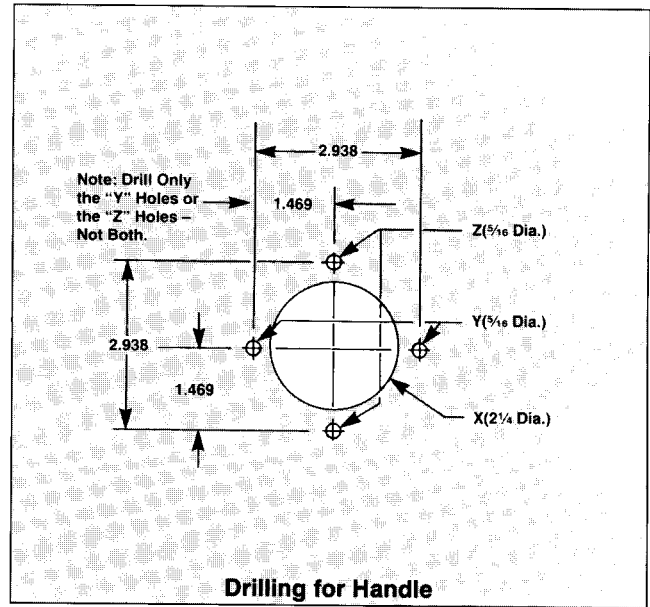

Figure 2a
- C. Find handle center dimensions **D** and **E** by adding enclosure thickness and cover overhang (**C₁** and **C₂**) to **A**- $\frac{1}{2}$ and **B** + 3.985. Drill hole **X** ($2\frac{1}{4}$ in. dia.) and drill either holes **Y** or **Z** ($\frac{5}{16}$ in. dia.) depending on handle orientation required (Figure 2a).